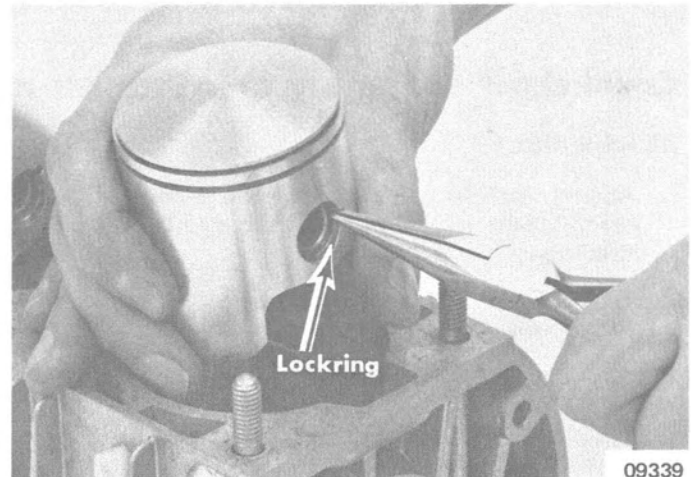

Figure 5. Installing Lockrings
4. Install new piston pin lockrings (2 on each piston). (Figure 5)